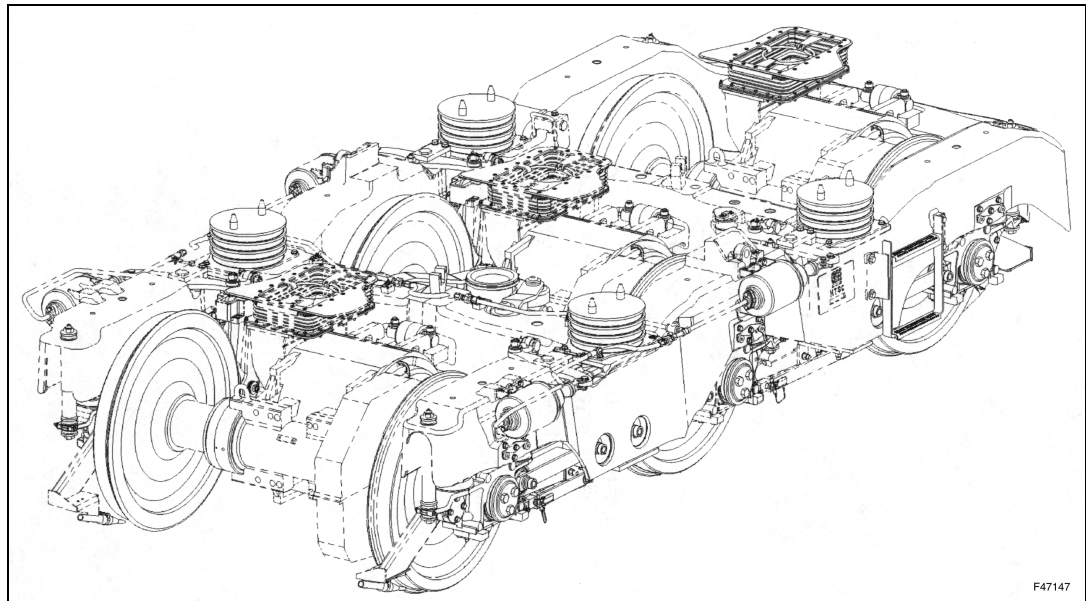

Figure 30 – Typical Bogie In Disassembly Area
10. Remove bogie from under locomotive and locate it right side up in the disassembly area, Figure 30.